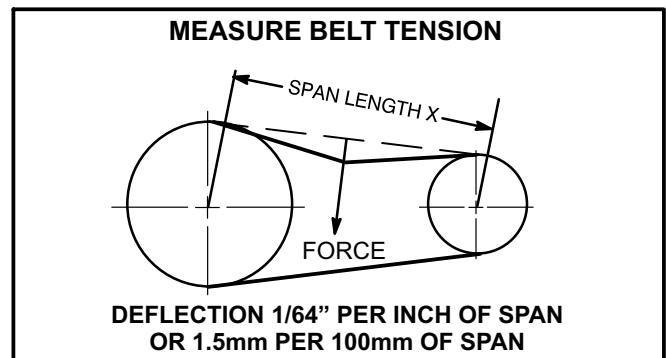

FIGURE 24
- 1- Measure span length X. See figure 24.
- 2- Apply perpendicular force to center of span (X) with enough pressure to deflect belt 1/64" for every inch of span length or 1.5mm per 100mm of span length.